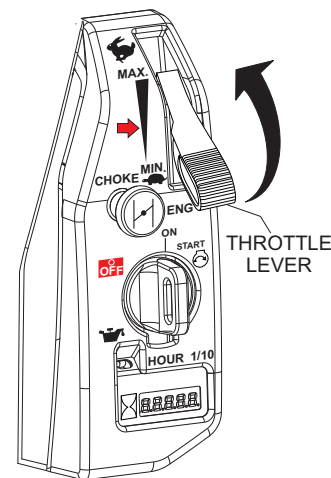

**Figure 13. Engine Choke Lever**
3. If starting a cold engine, **pull** the choke lever outward (Figure 13) to the **CLOSED** position.
4. If starting a warm engine or the temperature is warm, **push** the choke lever inward (Figure 13) to the **OPEN** position.
- Before operating, place the choke lever (Figure 13) in the **OPEN** position.